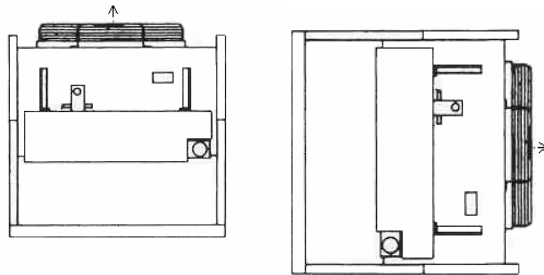

Fig. 1 Standard unit rotation
1. Position the condenser in the direction of the flow. (For instance, when the unit is viewed from the header end, the condenser fan should be rotated 90 degrees clockwise, as seen in Fig. 1).